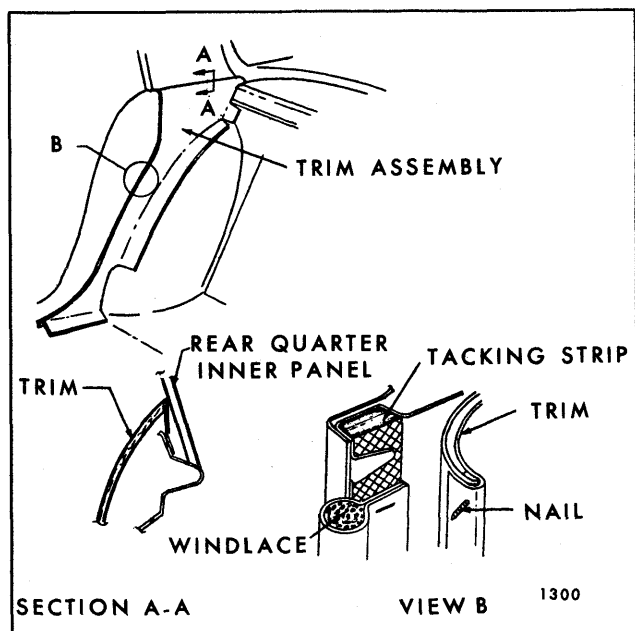

Fig. 8-14—Rear Quarter Lower Trim Assembly - "B&C" Body "39 and '69" Styles
3. With tool J-6335, or any other suitable flat bladed tool, pry trim assembly retaining nails from tacking strip (see Fig. 8-14).